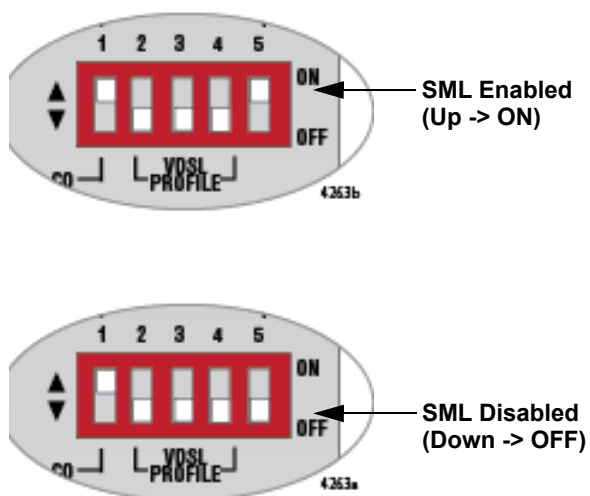

Figure 7. DIP Switch 5 - SML Configuration
- ❑ See Figure 7 for the SML configuration settings